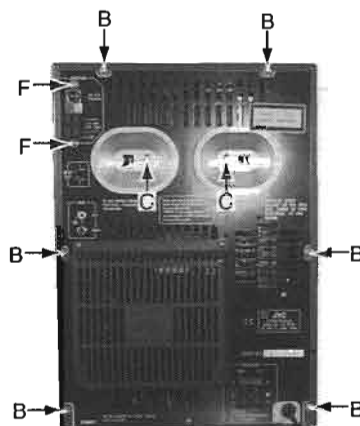

Fig 2
2. Remove two screws C on the rear side and two screws D on the upper surface. (See Fig.2,3)
5. Remove two screws F on the rear surface of TUNER P.C.Board fixation. (See Fig.2)